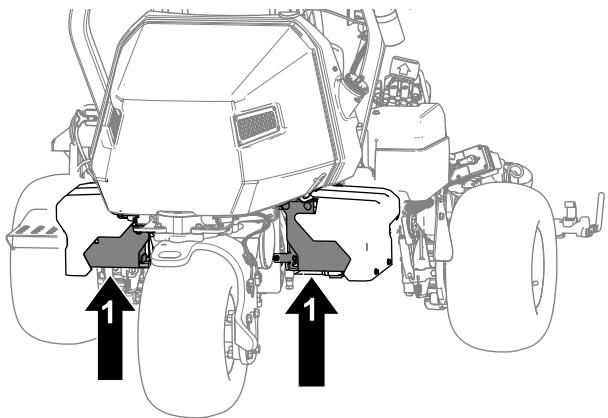

Figure 36
2. After raising the machine, use an appropriate jack stand under the following areas to support the machine (Figure 36):